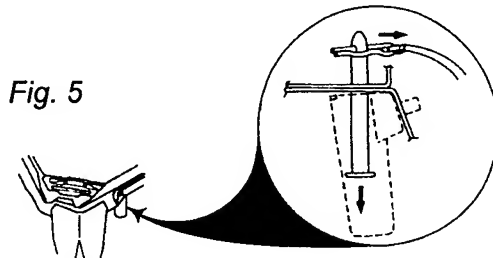

Fig. 5
**NOTE:** To prevent the two (2) shipping pins from falling on the floor, two (2) plastic holders are attached to the base. (Fig. 5) When the cotter pins are removed, the shipping pins fall into these holders. These pins may be left in the holder cups. (Fig. 5, INSET) They will not interfere with the operation of the washer.